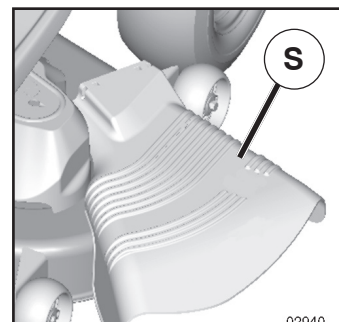

Fig. 22
**CAUTION:** Do not operate the mower without either the entire grass catcher, on mowers so equipped, or the deflector shield (S) in place (See Fig. 22).